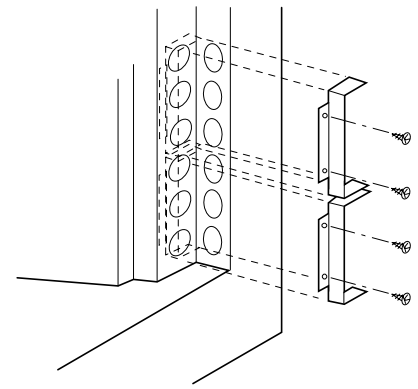

Figure 6
Step 2. Install two (2) baffles, one above the other with the black No. 8-15 x 1/2" Phillips pan head screws from the hardware kit (Figure 6).